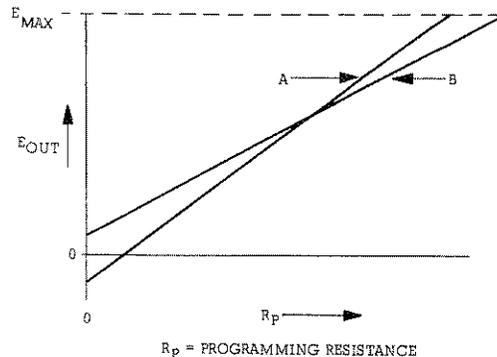
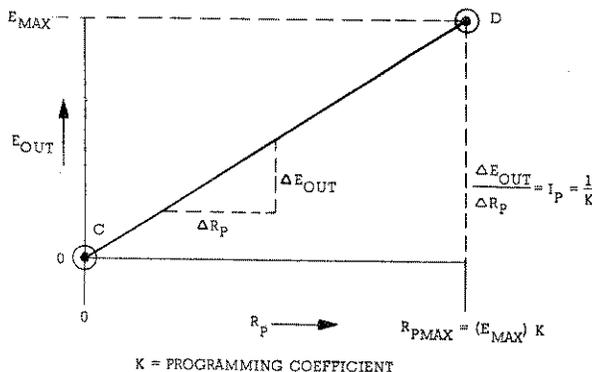

Figure 3-6. Unaligned Resistance Programming Characteristics
Figure 3-7. Aligned Resistance Programming Transfer Function
3-37 Figure 3-6 shows two resistance programming characteristics which are typical (although somewhat exaggerated) of the performance without programming alignment. The output voltage with zero programming always will differ from zero, being either positive (B) or negative (A), and the maximum output voltage will be achieved with a value of programming resistance not predicted by the programming coefficient.
3-38 Notice, however, that even with an unaligned instrument the typical characteristics of A and B are extremely linear — that is, there is no curvature. To convert either of the characteristics of Figure 3-6 to the desired programming characteristic of Figure 3-7, it is necessary to adjust both the zero crossing and the angle of slope of the programming characteristic.